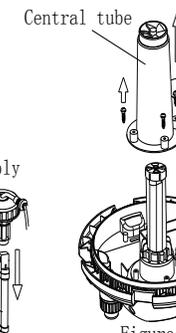
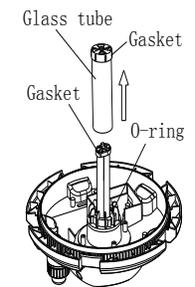

Figure 9
Figure 10
2. If the bulb works correctly the grass quartz tube where the bulb is placed must be cleaned, make sure the appliance is switched (pump and bulb).Open the container lid, remove the central tube which connect to the lid (See figure 9), extract the glass tube, remove possible calcareous deposits on the tube using a suitable product. Then reassemble all the parts making sure that the o-rings and gaskets are correctly placed (See figure 10).